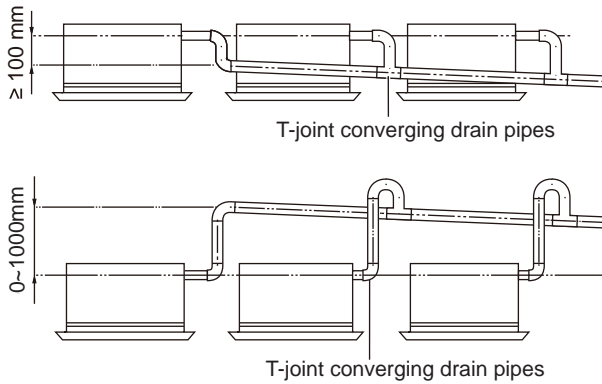

Fig.23
- (3). When unifying multiple drain pipes, install the pipes as Fig.23. Select converging drain pipes whose gauge is suitable for the operating capacity of the unit.(take the cassette type unit for example)